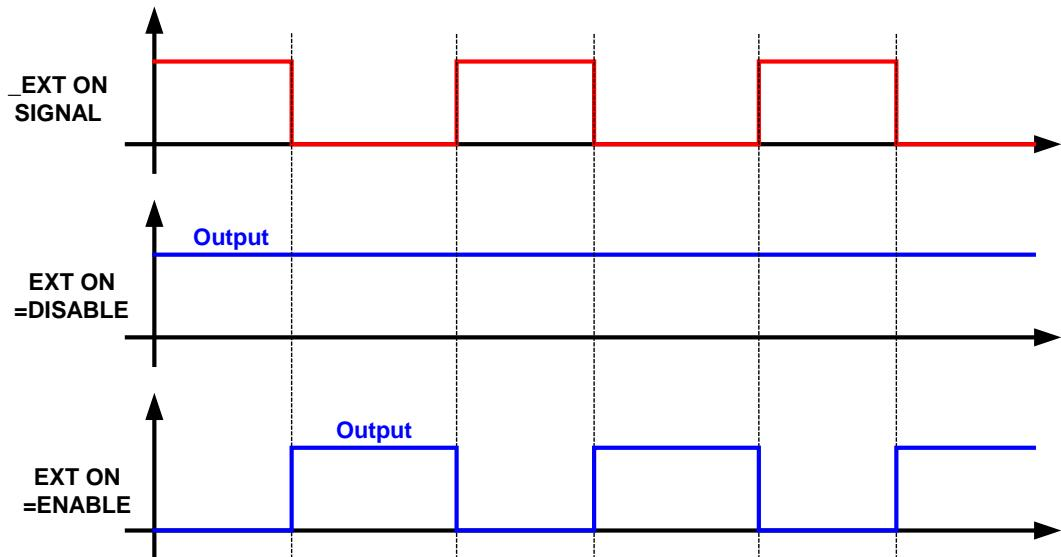

Figure 3-83
5. When the DC Power Supply is set to **OUTPUT = ON**, the EXTERNAL ON/OFF signal will control the output as shown in Figure 3-83.